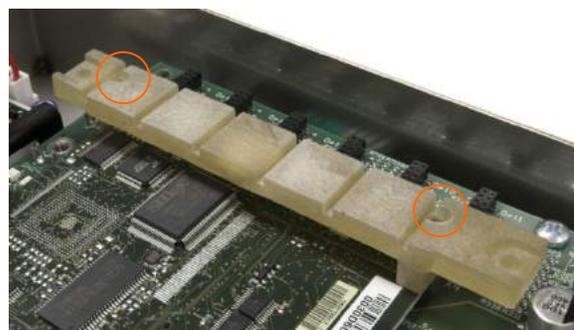

Figure 4-55: Lower Card Guide Screw Locations
1. Remove the two screws holding the lower card guide and the ETX board to the main PCB (Figure 4-52). The locations of these screws are indicated in Figure 4-55.
5. Install screws to secure the board to the main PCB. Two of these screws also attach the lower card guide. This bar is asymmetrical, and must be mounted in the orientation indicated in Figure 4-55. Note that the longer end is oriented toward the main PCB battery.